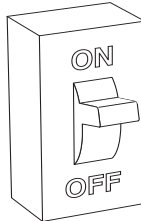

Fig. 13 – Turn on Electrical Supply
8. Turn ON the electrical supply to the furnace and wait one minute (see Fig. 13).